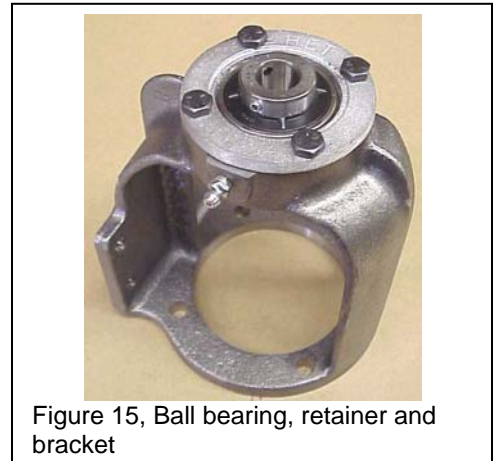

Figure 15, Ball bearing, retainer and bracket
10. Replace the bearing retainer onto the bracket with the small step away from the bearing, figure 15, page 10.